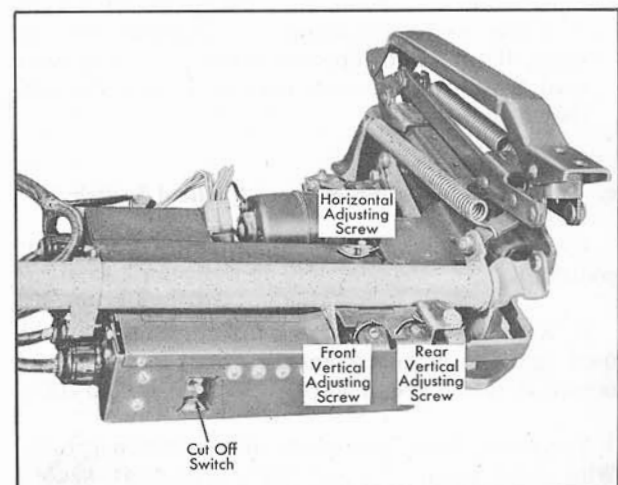

Fig. 17-89 Relay and Response Switch Seat Control Box
1. Horizontal Adjustment - With dial selector control switch set in full rear position, turn adjusting screw, Fig. 17-89, in direction of arrow until motor continues operating. While motor is operating, turn screw in opposite direction until motor cuts off. Then, turn adjusting screw an additional one full turn in same direction.